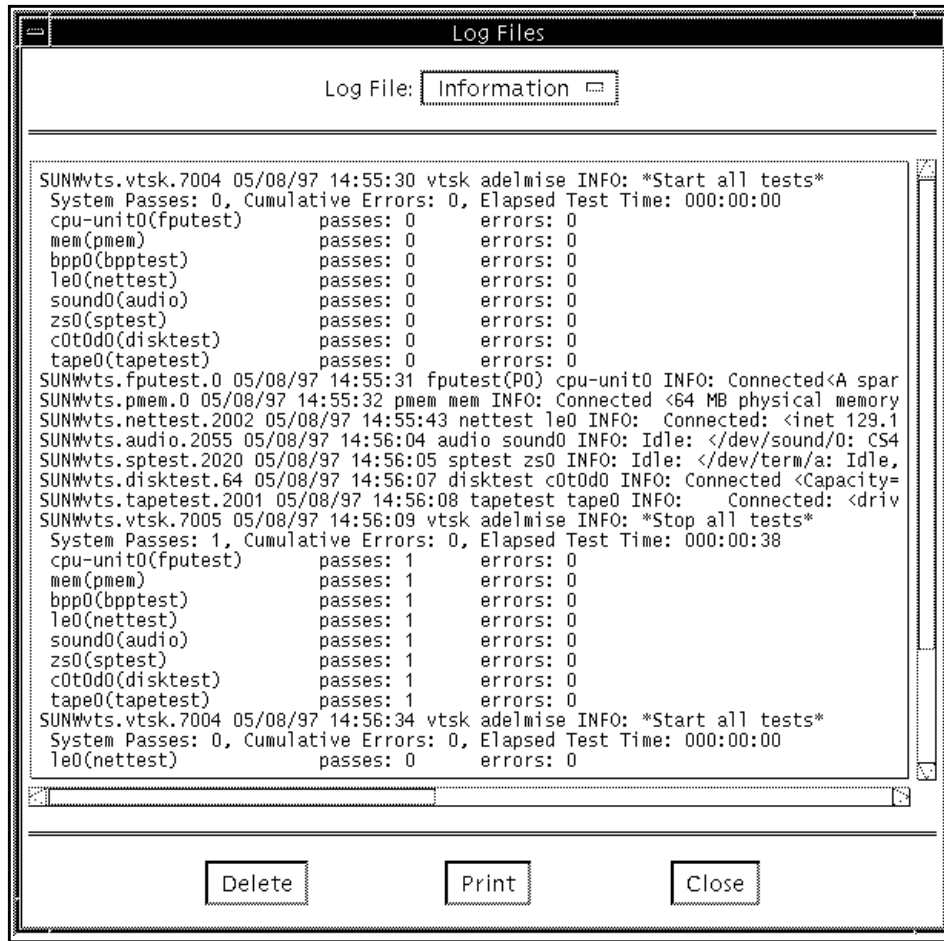

FIGURE 3-17 Log File Screen
- To view the SunVTS Error and Information log files as well as the `/var/adm/messages` file, which is the Solaris system message log, select Log files (see FIGURE 3-17).